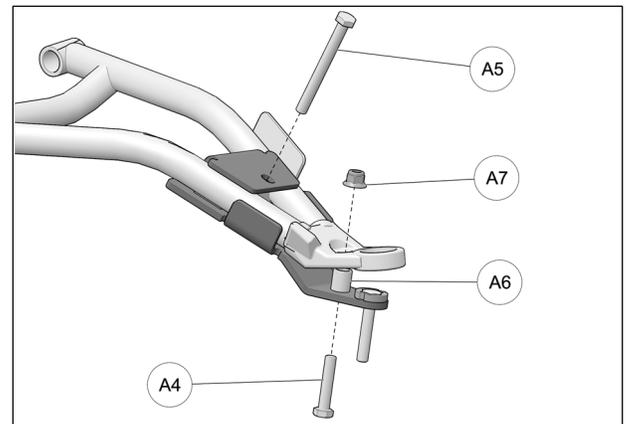

Fig. 16
6. Insert the M10x100mm bolt (A5), from the top, through the hole in bracket cover. From the bottom, insert the M10x50mm bolt (A4) through anchor bracket, bushing (A6) and suspension arm. Secure bracket to suspension arm using provided nut (A7). Tighten assembly to 50 N•m [37 lb•ft] of torque. Refer to Fig. 16